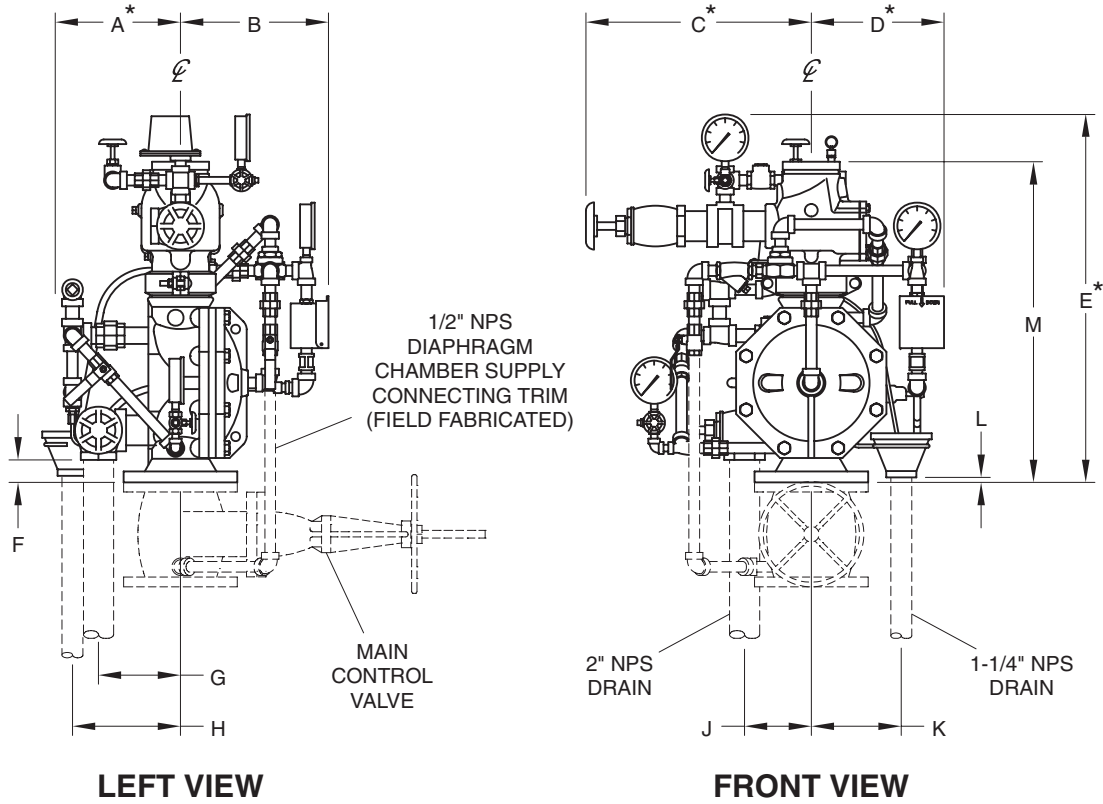

FIGURE 3
The Supervised Single Interlock Preaction System With Electric Actuation Trim provides for electric operation of the DV-5 Valve by a detection system consisting of electrical devices such as heat sensitive thermostats, smoke detectors, and/or electric manual pull stations. Information on the various types of separately ordered Solenoid Valves that may be used with this trim package is given in Technical Data Sheet TFP2180. Nominal installation dimensions for the Supervised Single Interlock Preaction System With Electric Actuation Trim are shown in Figure 3.
Step 7. Connect the Diaphragm Chamber Supply Control Valve to the inlet side of the system's main control valve in order to facilitate setting of the DV-5 Valve (Fig. 3).